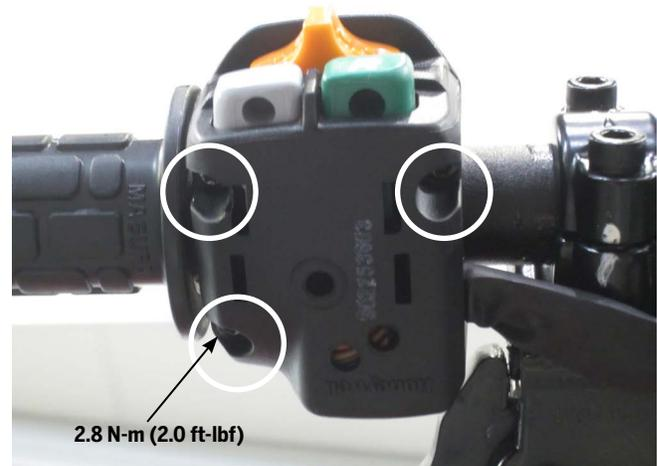

Figure 112: Control Cluster Fasteners
5. Using a T15 Torx wrench, loosen the three fasteners on the under side of the Control Cluster. See **Figure 112**.